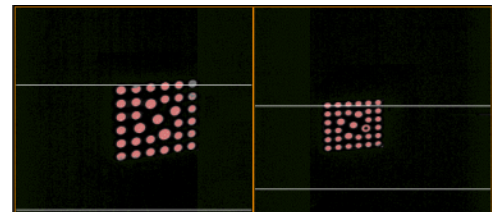

Figure 3-77
11. A screen with two images of the targets should appear along with two white horizontal lines. (Figure 3-77) The cameras have been preaimed at the factory to minimize the amount of adjustment that should be made.